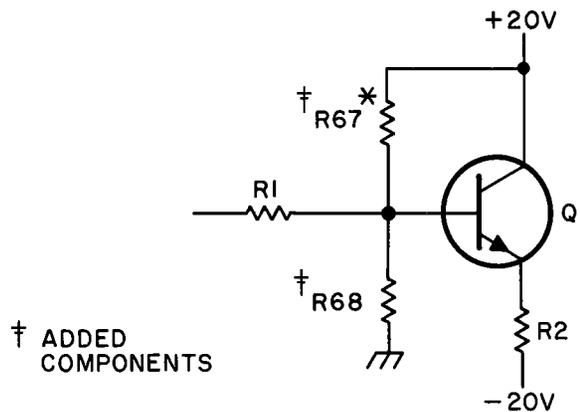

Figure 2. Circuit Location of R67 and R68
7. Change the schematic diagram in your 3302A Operating and Service Manual as shown in Figure 2 below.